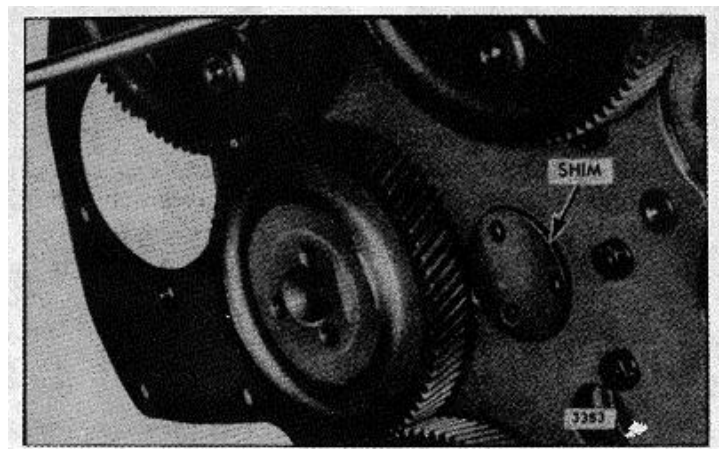

Fig. 2 - Location of Shim
3. If the flywheel housing has an integral cast hub, install a flywheel housing-to-end plate shim (.015 " thick). Use grease to hold the shim to the cylinder block rear end plate (Fig. 2).